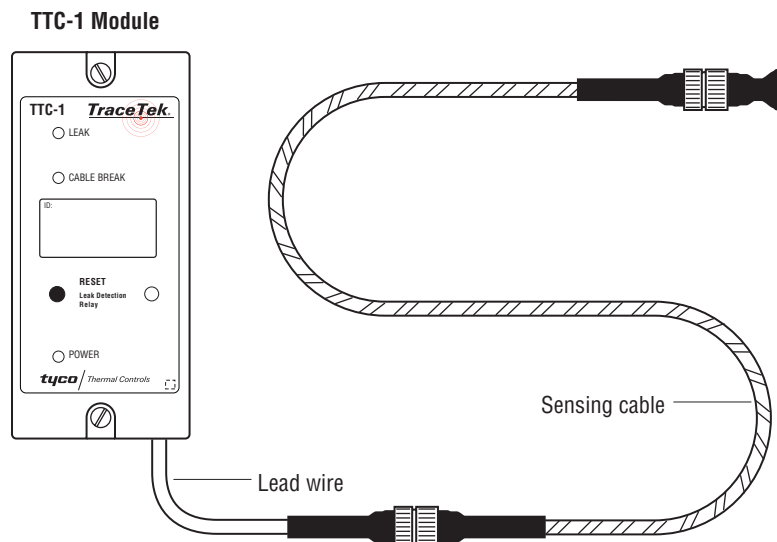

Figure 1: Typical system diagram
- The TTC-1 module is designed for use with TraceTek sensing cables and probes only. A TTC-1 based system will detect and alarm on all fluid leaks detected by the TraceTek cable as per the appropriate cable data sheet, see Figure 1.
- Maintenance personnel should examine the sensing cable for cleanliness and verify proper operation of the TTC-1 module at least every six (6) months.